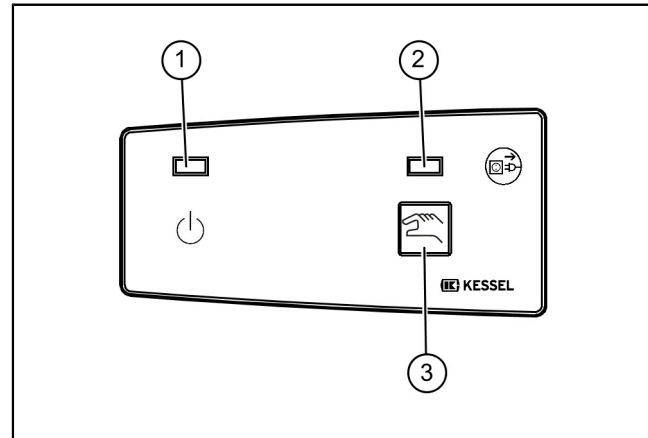

Fig. 8: Overview of displays
If a condition has occurred that triggers an alarm the alarm LED (2) lights up and if applicable, one of the other LEDs. After removing the cause of the alarm, the alarm can be acknowledged by pressing the button (5) (see "Fig. 8: Overview of displays", page 41).